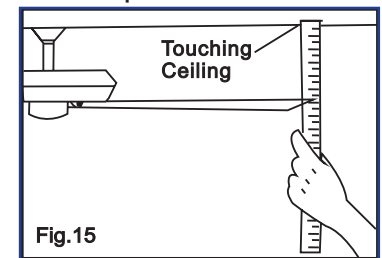

Fig.15
5. Most fan wobble problems are caused when blade levels are unequal. Check this level by selecting a point on the ceiling above the tip of one of the blades. Measure this distance as shown in Figure 15. Measurements deviation should always be within  $1/8"$ . Rotate the fan until the next blade is positioned for measurement. Repeat for each blade.